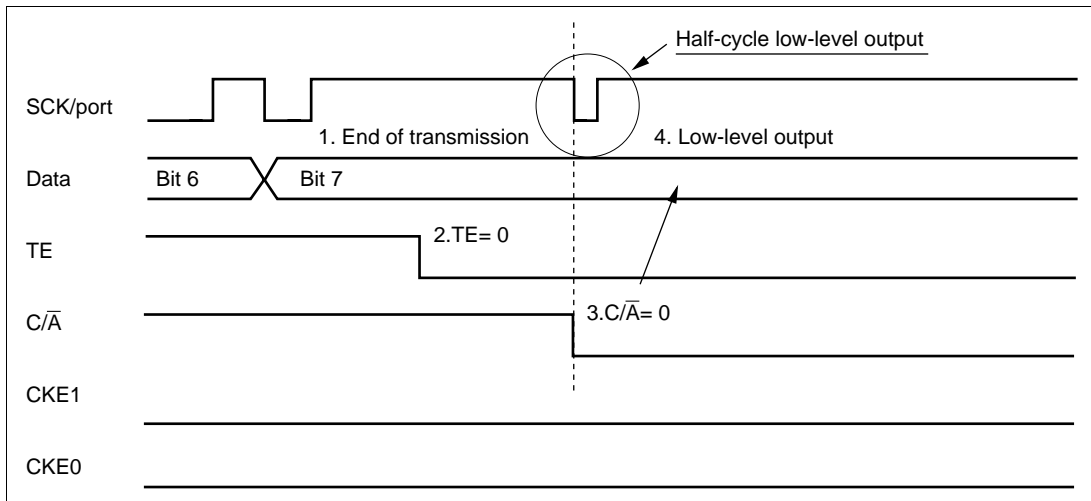

Figure 13.23 Operation when Switching from SCK Pin Function to Port Pin Function
4. Occurrence of low-level output (see figure 13.23)